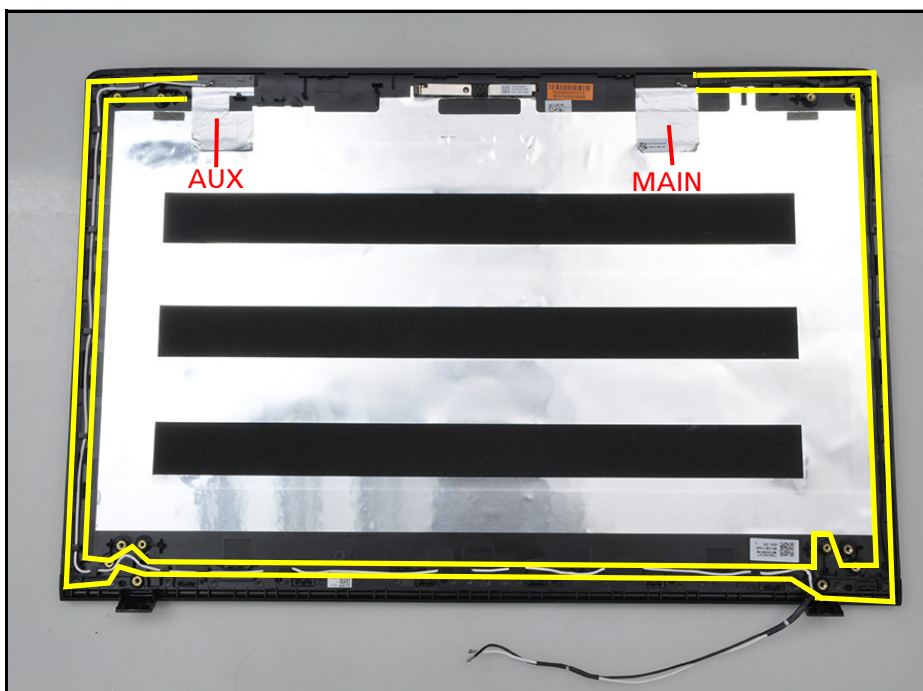

Figure 3-71. Replacing the WLAN Antenna
3. Route and secure the indicated portions of the MAIN antenna and AUX antenna (Figure 3-71).